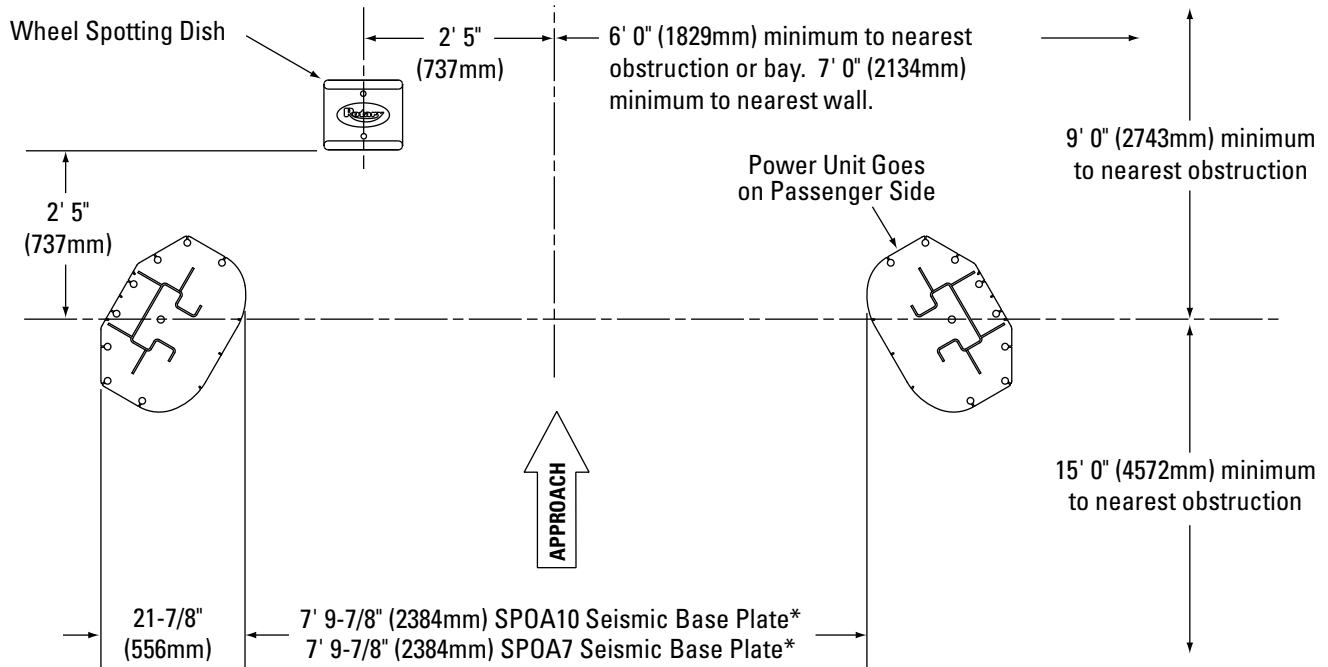
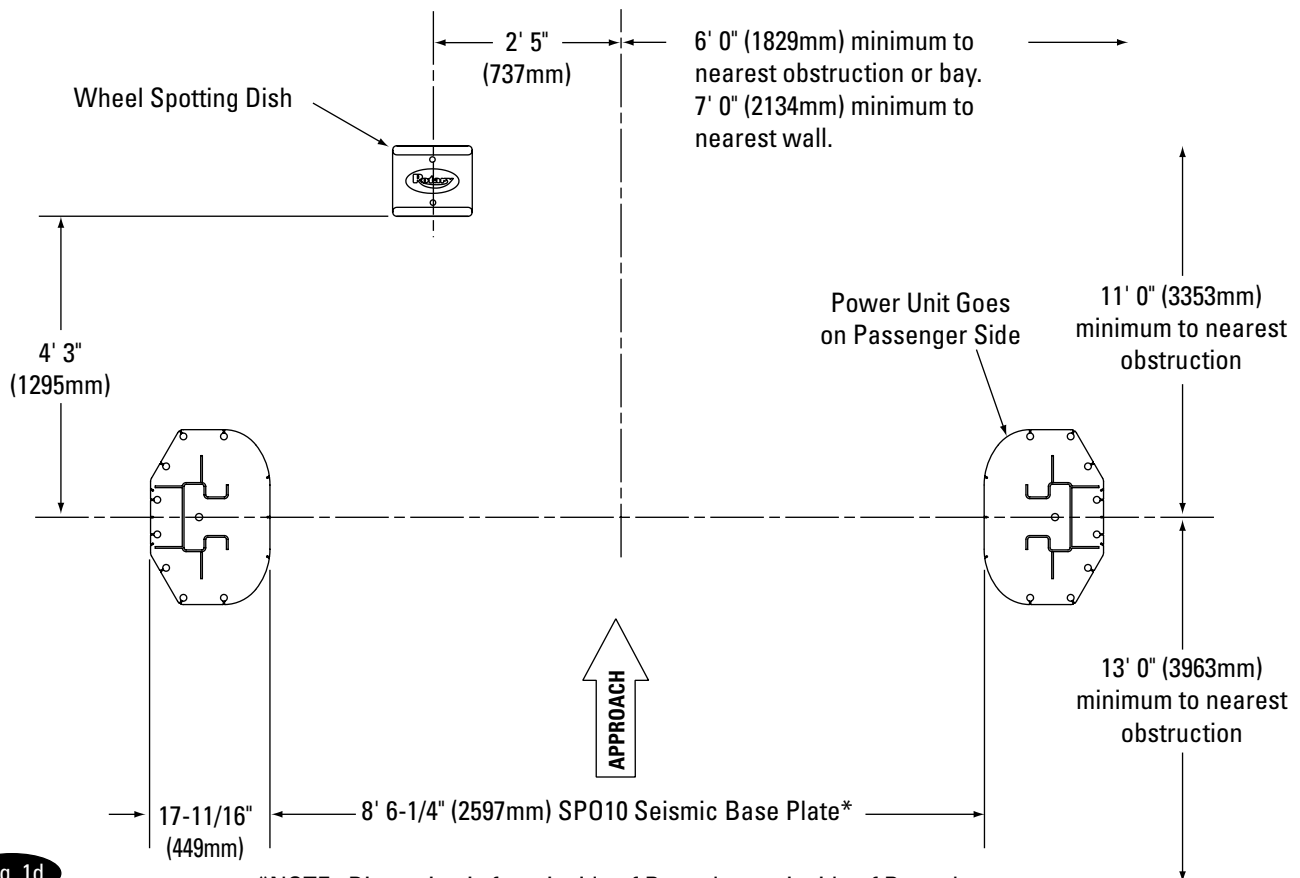

Fig. 1c
Fig. 1d
1. Lift Location: Use architects plan when available to locate lift. Fig. 1a, Fig. 1b, Fig. 1c, Fig. 1d, shows dimensions of a typical bay layout.